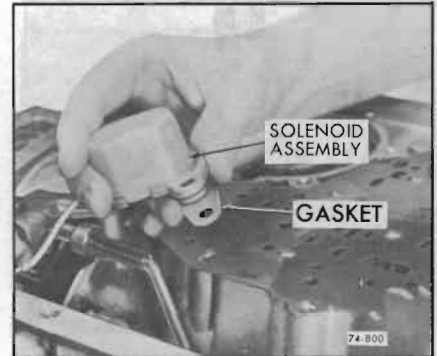

Figure 74-773
9. Install solenoid gasket. See Figure 74-773.